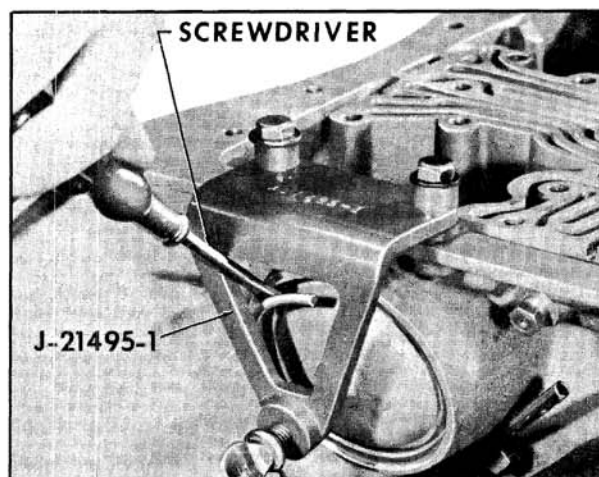

Fig. 6-359 Removing Low Servo Cover Snap Ring
Refer to Figs. 6-359, 6-360, 6-499, 6-500, 6-501 and 6-502.
2. Remove low servo cover snap ring. Use Tool J-21495-1 to compress servo cover so snap ring can be removed. (Fig. 6-359)